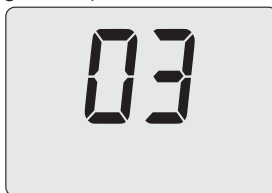

Fig. 10.25
- Press the 12 key (Fig. 10.19) to confirm the value entered and activate the function (Fig. 10.25).